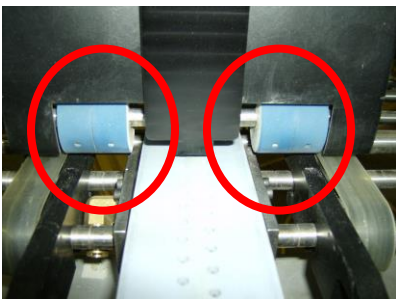
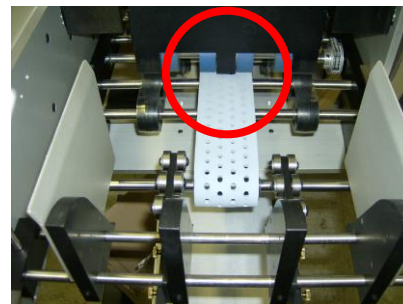

Figure 1
Figure 2
- Figure 1 Full Minimum**
- Figure 2 1/2 Setting (feeds half way into the pocket)**
Figure 1 shows full minimum delay, thus an immediate feed cycle once triggered.
Figure 2 represents feeding the middle of the pocket – at a line speed of 60 ppm, this dial position would be at ½.
The purpose of repositioning the separating rollers off the belt is to create a "flex" separation (figure 1) vs. nip point separation (figure 2). This can be done with the separator mounted or removed from the feeder. The preferred method is to remove the separator.